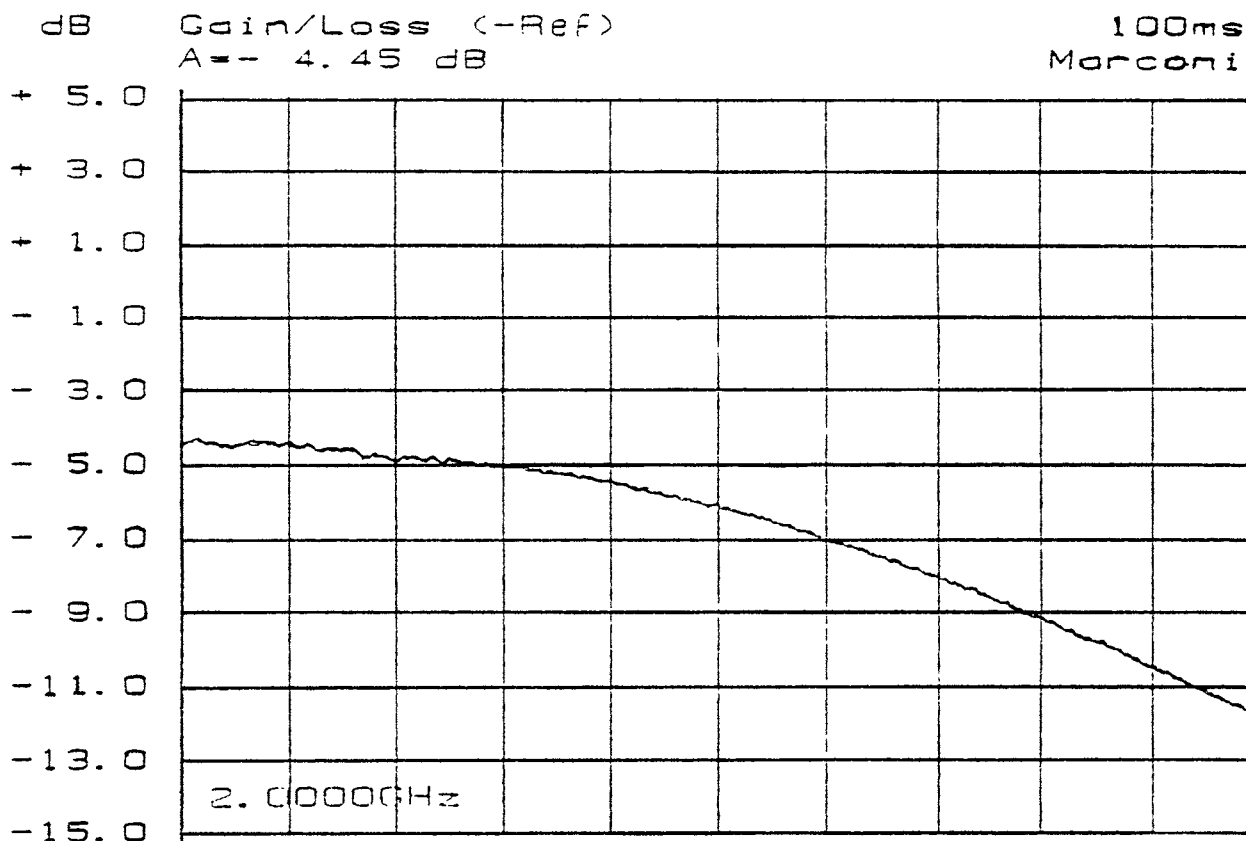

Fig. A-2 Response of unknown detector with respect to 6511
- (3) Select [SHIFT][ZERO] to zero the two detectors.
- (4) On the sweeper set a continuous frequency of 2 GHz and a power sweep from -15 dBm to +15 dBm (or maximum levelled power if lower).
- (5) Switch RF on. Select [A][R] on the 6500. A trace of the form shown in Fig. A-2 should be obtained.